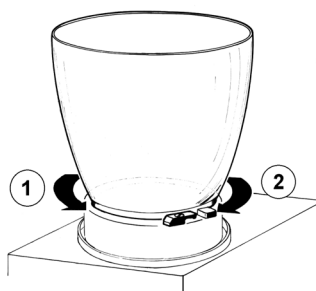

figure 2
- 4** Remove the empty bowl by rotating it counterclockwise (see figure 2).
Wet the gasket for ease of insertion (see figure 2).